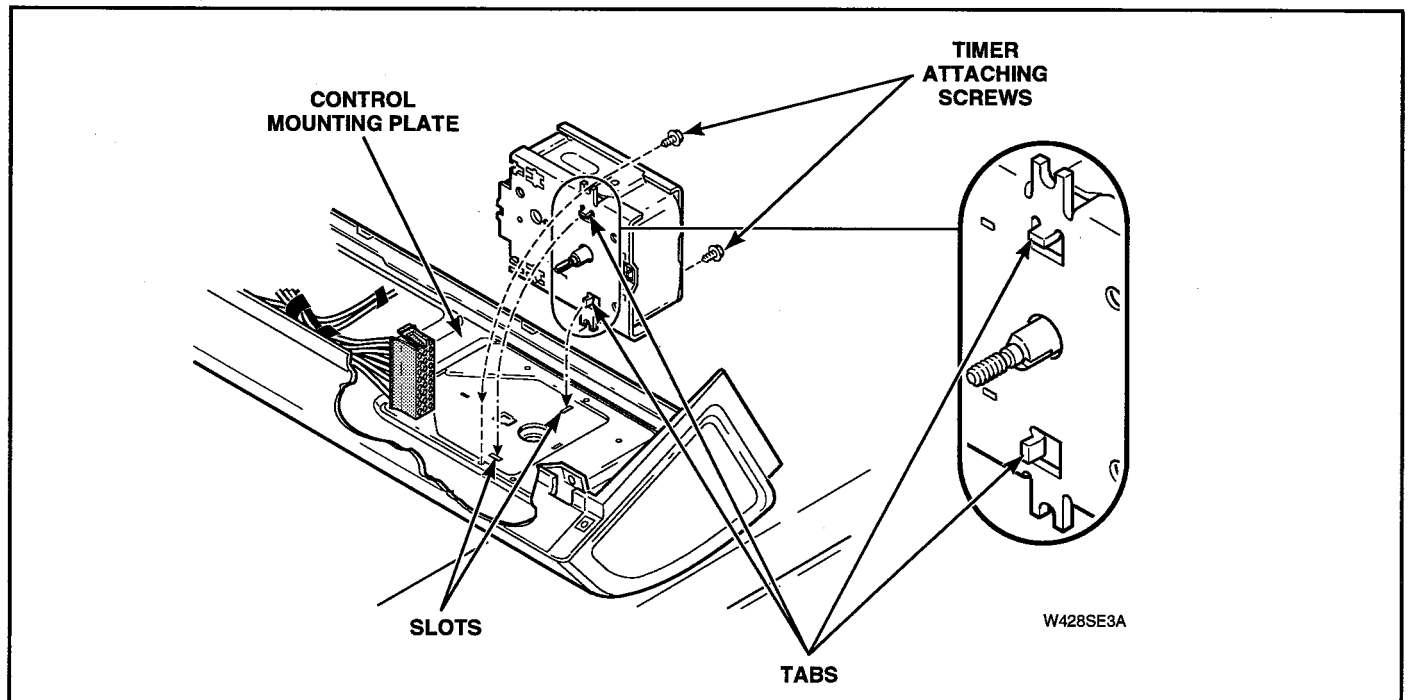

Figure 5-8
NOTE: When installing timer, make sure timer is installed correctly and is securely mounted to control mounting plate. See Figure 5-8.
- f. Seat horizontal and vertical tabs on front plate of timer completely into slots on control mounting plate. See Figure 5-8.